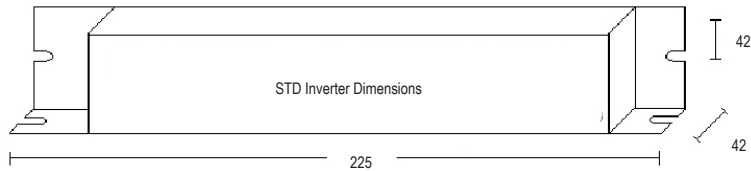

Figure 1: Inverter Pack Dimensions
2. If all looks okay, proceed with the installation; use a pencil to mark the position of the mounting screw holes for the inverter and battery pack in the gear tray. Figure 1 shows the inverter pack dimensions.